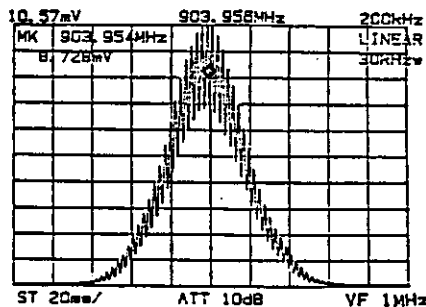

Figure 5-4 Setting the Ordinates Axis Scale to LINEAR
- ⑤ Press the **REFERENCE LEVEL**  key and set the marker (the peak of the measured signal) to the reference level.
- ⑥ Press the **SHIFT** , **LINEAR** key and set the ordinates axis scale to LINEAR (Figure 5-4).